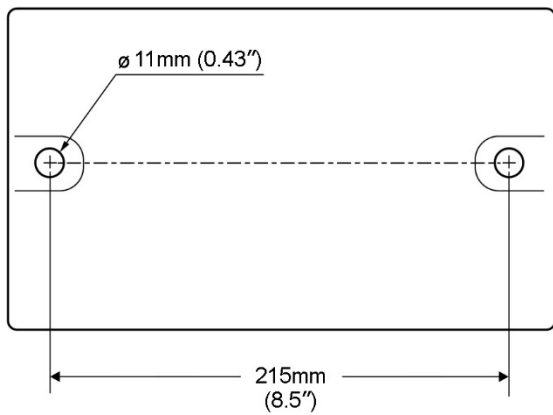

Figure 1: **IBG-8** hole centers
1. Align the mounting holes on the grinder with predrilled holes in a bench or grinder stand. Figures 1,2,3 show hole centers for mounting.